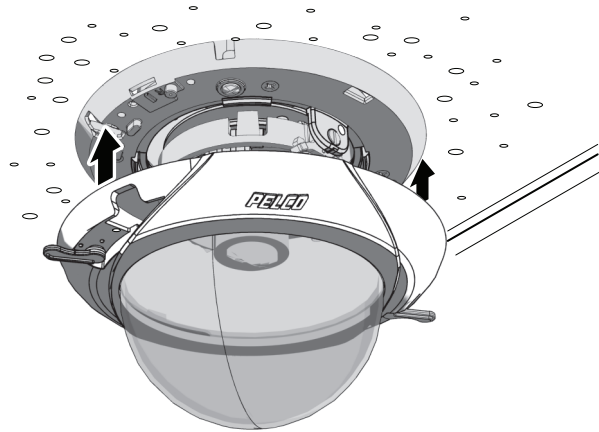

Figure 10. Aligning the Lower Dome with Camera
3. Move the lower dome latches away from the bubble until you hear a click indicating the latches are open. Align the lower dome latches with the slots located on the camera module (refer to Figure 10).